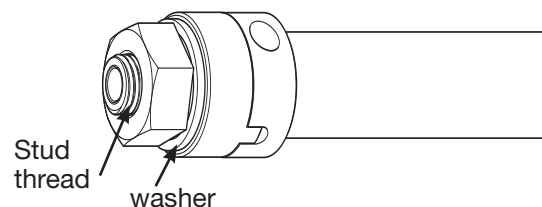

Figure 4: Single bolt tool
9. Attach pipe assembly, vent hose and low pressure gauge to the through-port, per figure 4. All threaded connections shall be wrapped with Teflon tape. Route the attached vent hose a minimum of 30 feet, downwind of the work area in a safe location. Be mindful of any other potential ignition sources when routing the vent hose.